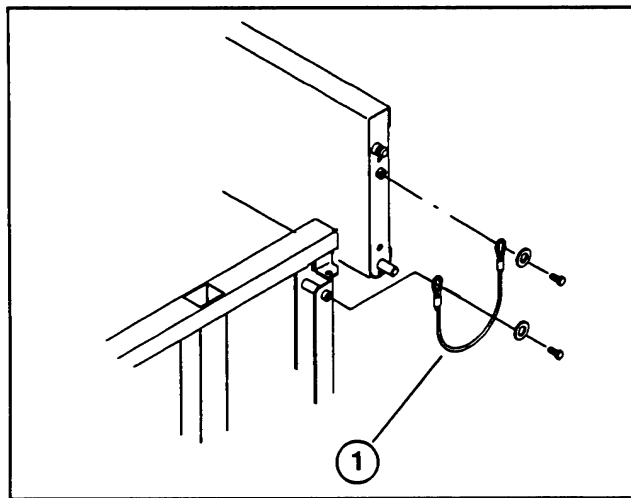

Figure 4
10. Mount each end of lanyard to side panel and tailgate with a 5/16-18 x 5/8" lg. capscrew and flat washer (Fig. 4).